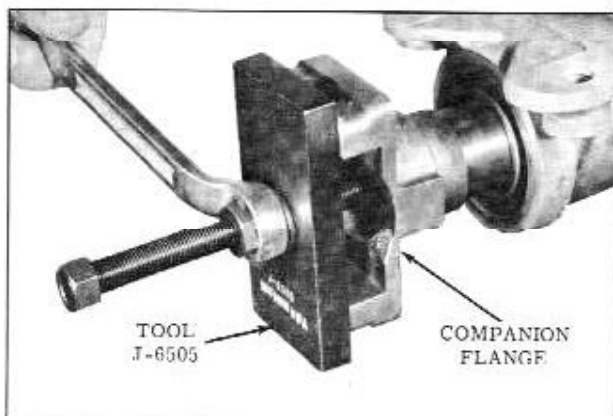

Fig. 3-126 Installing Companion Flange
76. Install the companion flange assembly, using Tool J-6505. (Fig. 3-126)